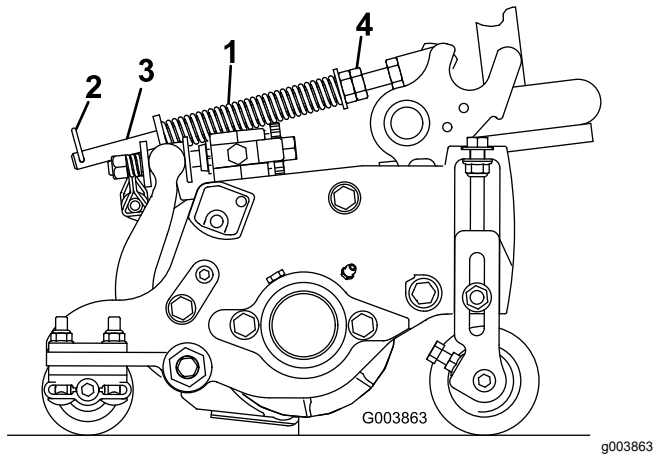

Figure 90
The turf-compensation spring transfers weight from the front to the rear roller (Figure 90). This helps to reduce a wave pattern in the turf, also known as marcelling or bobbing.
1. Make sure that the hairpin cotter is installed in the rear hole in the spring rod (Figure 90).
2. Tighten the hex nuts on the front end of the spring rod until the compressed length of the spring is 12.7 cm (5 inches) for 5-inch cutting units or 15.9 cm (6.25 inches) for 7-inch cutting units (Figure 90).